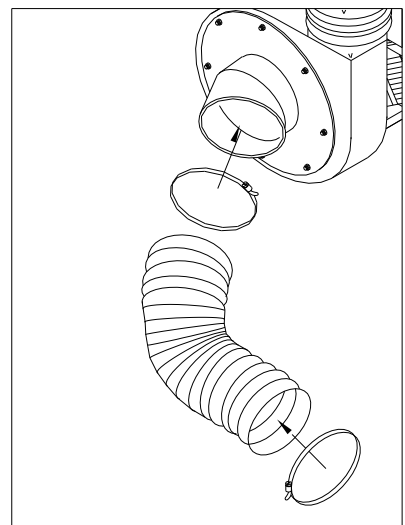

Fig. 9
7. The molded top assembly has been partially assembled by the factory. Fit the filter (16) over the filter support inside the top. Slide intake nozzle (21) through hole in top from the inside out with the lip inside. Attach the latch (18) to molded top with two 1/4" x 1/2" truss head screws and whizlock nuts. **Fig. 9**